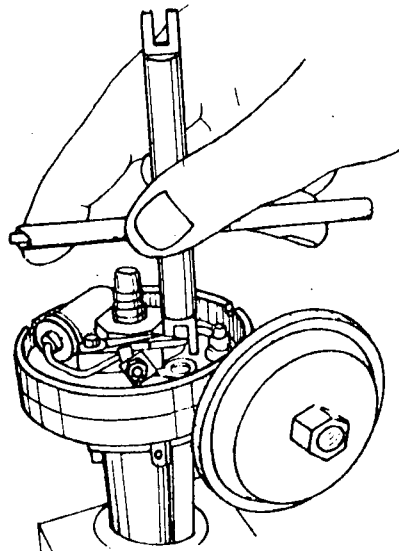

Fig. 3
- b) Align the contacts of the breaker points (fig. 3) and measure the primary resistance insulation and current leaks.